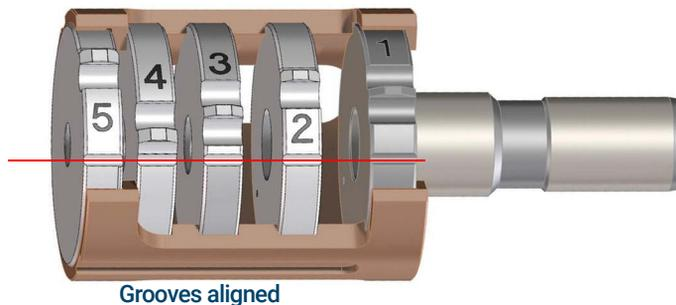

Figure 53 Assembled EI HES lens stack
- 1 Assemble the five lenses inside the lens insulator. (See Figure 53 on page 158.) The lens number is engraved into the outer circumference of each lens.